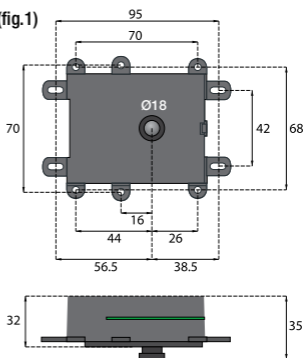

fig.1
a. Afmetingen cameramodule in mm (fig.1)